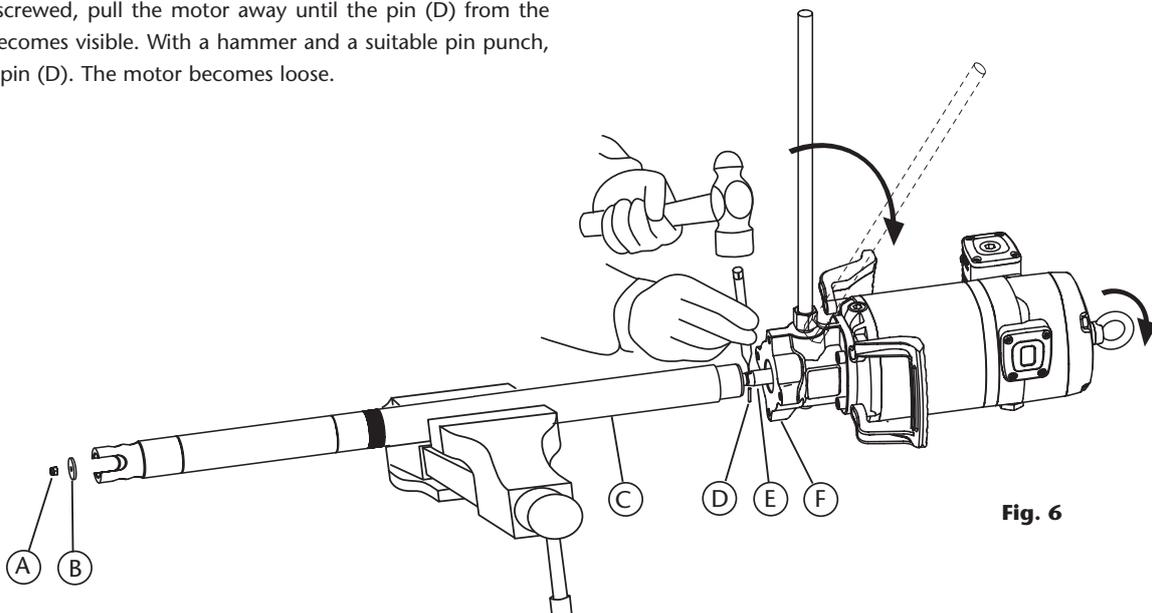

Fig. 6
SEPARATE THE AIR MOTOR FROM THE PUMP (FIG. 6)
1. Fix the pump in a vise in horizontal position (fig. 6). Gently blow with a hammer the upper tube (C) close to the body (F) in order to break the thread locker.
2. Unscrew the nut (A) and remove the primer (B).
4. Once unscrewed, pull the motor away until the pin (D) from the rod (E) becomes visible. With a hammer and a suitable pin punch, eject the pin (D). The motor becomes loose.